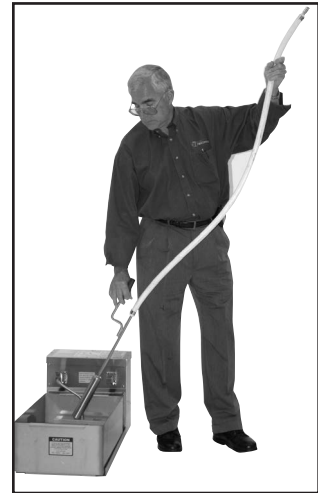

Figure 9
13. Disconnect hose and wand from pump output connector and place in an upright position to drain. This will prevent clogging caused by solidified shortening in hose and wand (Figure 9).
1. Disconnect filter hose wand, and drain (see figure 9). Make sure quick disconnect covers are pushed all the way down. Disconnect filter tube and turn pump on for 3-5 seconds to force shortening from pump. Failure to do this will cause pump or hose to clog with shortening.
**WARNING:** To prevent the pump from clogging, it is important that both hoses be disconnected from the pump as soon as the filtering process is completed. Next, turn the pump on for 3-5 seconds, then turn it off. This clears any remaining shortening from the pump. Drain shortening from the hose and wand as shown in Figure 9. The hose and wand and filter clamp assembly should be washed in hot water as part of the daily cleaning procedure. Failure to follow this procedure could result in clogged internal lines, requiring partial disassembly of unit.